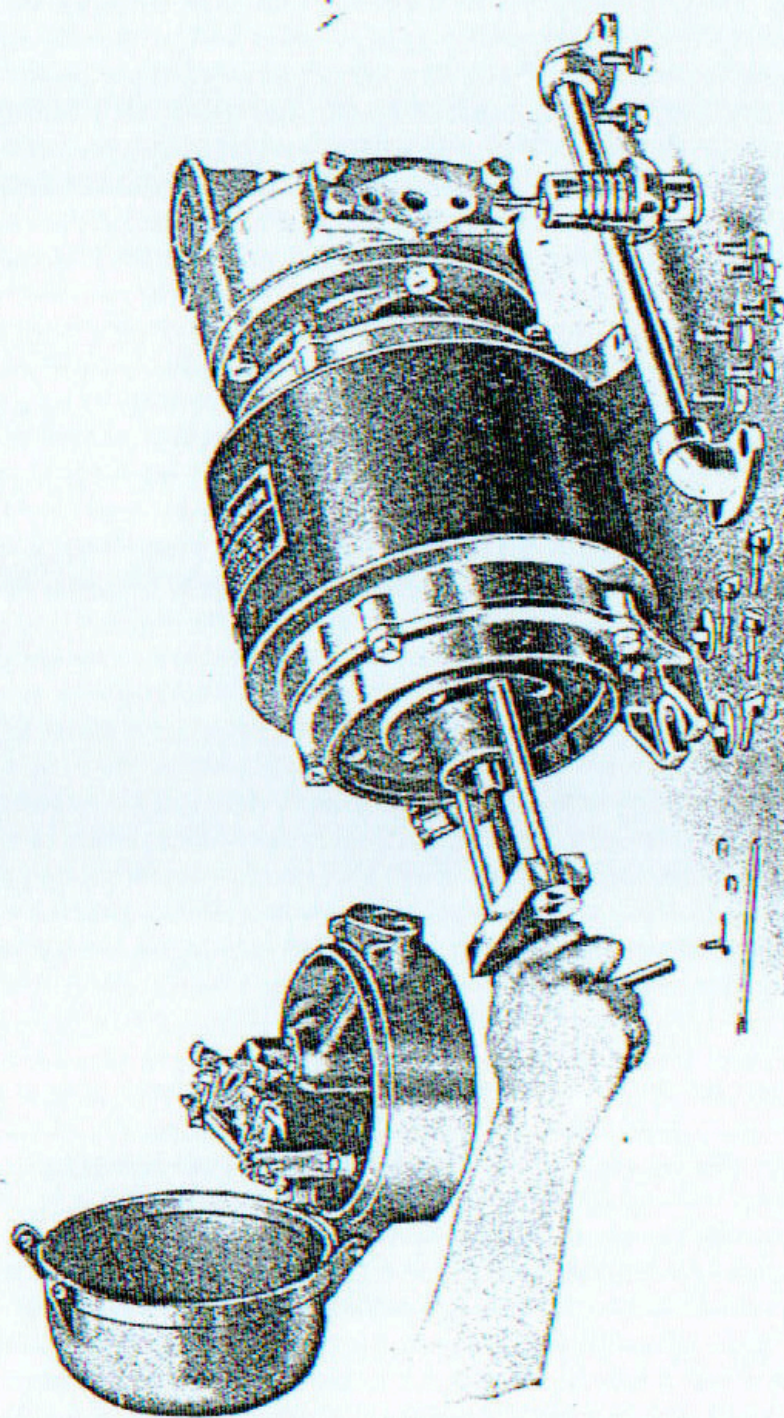

FIG. 2.
1. Withdraw hinge pin and swing back governor end cover (21).
2. Unscrew lock-nuts (27) on governor stem (26) and remove outer thrust-plate (51).
3. Remove spring pin and withdraw adjusting pin (45) in quadrant then swing rocker (43) with thrust-block carrier (50) clear of governor stem (26) and remove inner thrust-plate (52).
5. Remove screws inside governor end casing (11), and after loosening the case with a copper or lead mallet, remove it complete with valve and valve rocker.
6. Slacken locking-screws (20) in governor body (19) which lock it on the shaft.
8. Remove the bolts in the governor end housing cap (31) and apply the extractor, screwing the two long bolts provided, into the two threaded holes in the housing. By tightening the "Tommy" screw against the shaft end, the housing will be drawn off. (*See Fig. 2.*)
9. Slacken back the lock screw in the bearing nut (2) and apply the peg spanner to the nut which may then be loosened by a sharp blow on the "Tommy" bar. Remove the bearing washer (3) below the nut and also the oil ring (39).